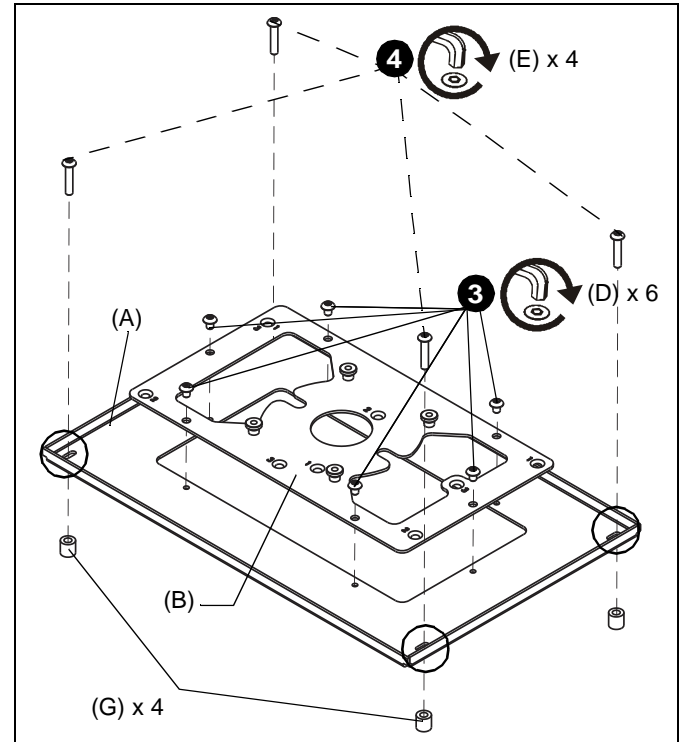

Figure 4
3. Secure small adapter plate (B) to large adapter plate (A) using six 10-24 x 1/4" security button head screws (D). (See Figure 4)
4. Secure joined adapter plates to projector using four M4 x 20mm security button head screws (E) and (if required) spacers (G) through each corner of the large adapter plate (A). (See Figure 4)